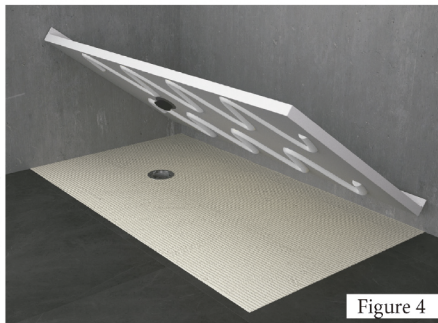

Figure 4
3. Spread polyurethane glue on the underside of the shower base due to be in contact with the floor area as per figure 4.